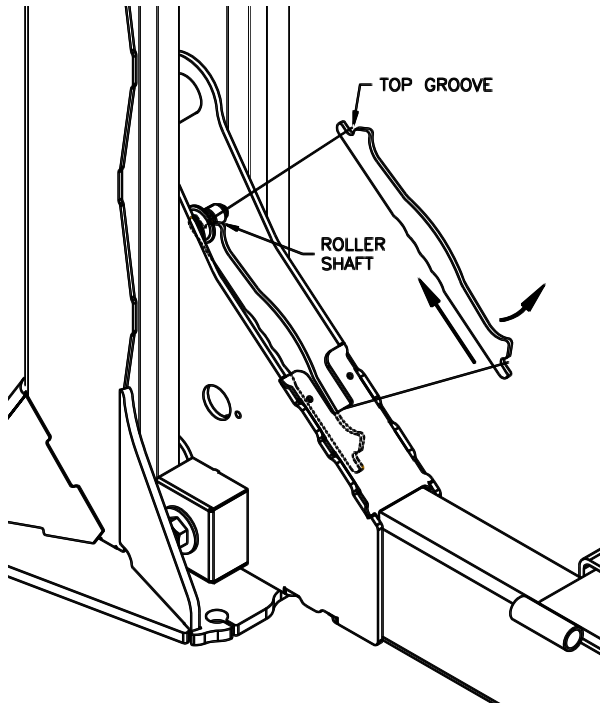

Fig 12 – Slack Cable Latch Disengaging Tool
- 25) Insert stack cable latch disengaging tool inside power side front cross beam and engage the groove at the top end of the tool with the latch roller shaft as shown in **Fig 12**. Push the slack lock latch back into the column while rotating the bottom of the tool upward and engage the bottom groove of the tool in the cross beam. This will allow the column to be moved into position without resistance from the slack lock.